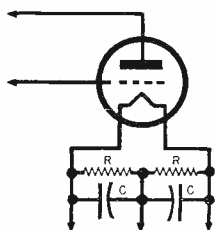

FIG. 5
- The purpose of the resistors and condensers shown in Fig. 5 is (a) hum reduction (b) neutralization (c) impedance matching.